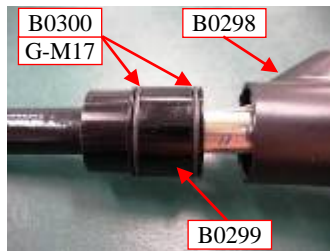

Fig.6-2-4
- 1) Apply G-M17 to 2-O-Ring (B0300) of the Joint Seal Ring (A-B0299) and install A-B0299 to B0298 as shown in Fig.6-2-4.